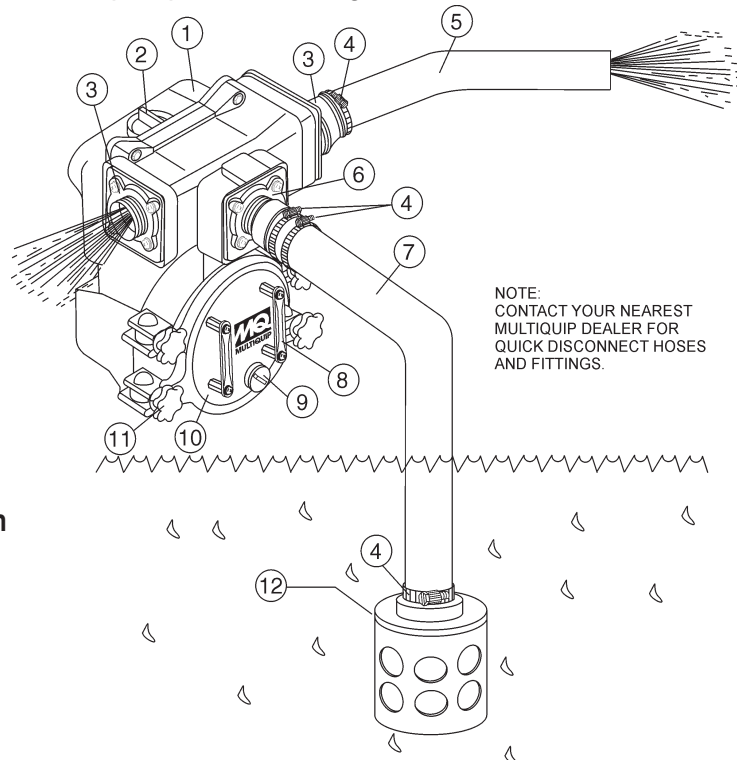

Figure 2. QP4TE Pump Application
Figure 2 shows a typical application using the QP4TE Centrifugal Trash pump. Please note that this pump is intended for the removal of clean water and water containing some debris and solids. Maximum size of solids should not exceed 2 inches (50 mm) in diameter. **DO NOT** set strainer on bottom of water bed. Placing the strainer above the water bed will prevent the pump from drawing in excessive amounts of sand and foreign debris.
3. To prime pump, remove fill cap (Figure 2) and fill pump casing with water. If the pump casing is not filled with water before starting, it will not begin pumping.
1. Check that all hoses are **securely** attached to the pump. Make certain suction hose (Figure 2) does not have any air leakage. Tighten hose clamps and couplings as required.
4. Check that the **discharge** hose (Figure 2) is not restricted. Place hose so that it lays as straight as it is possible on the ground. Remove any twists or sharp bends from hose which may block the flow of water.
6. Make sure the **suction strainer** (Figure 2) is clean and securely attached to the water end of the suction hose. The strainer is designed to protect the pump by preventing large objects from being pulled into the pump.